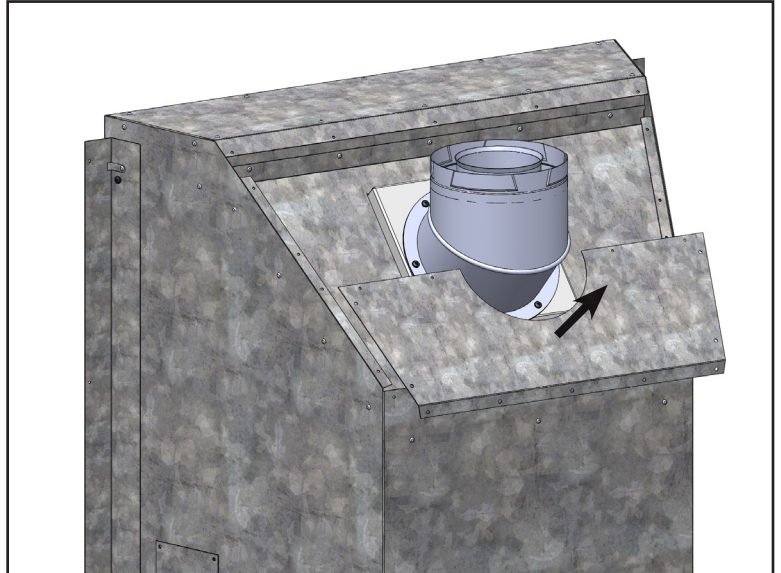

Fig.22
3. Remove the lower flue access cover from appliance and set aside. **(Fig.22)**